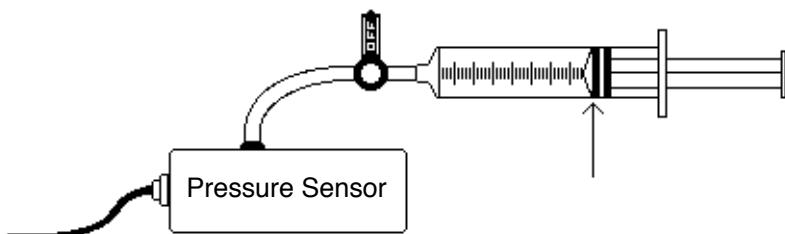

Figure 1
- Move the piston to position the front edge of the inside black ring (see *Figure 1*) at the 5.0mL line on the syringe. Hold the piston firmly in this position until the pressure value displayed on the calculator screen stabilizes.